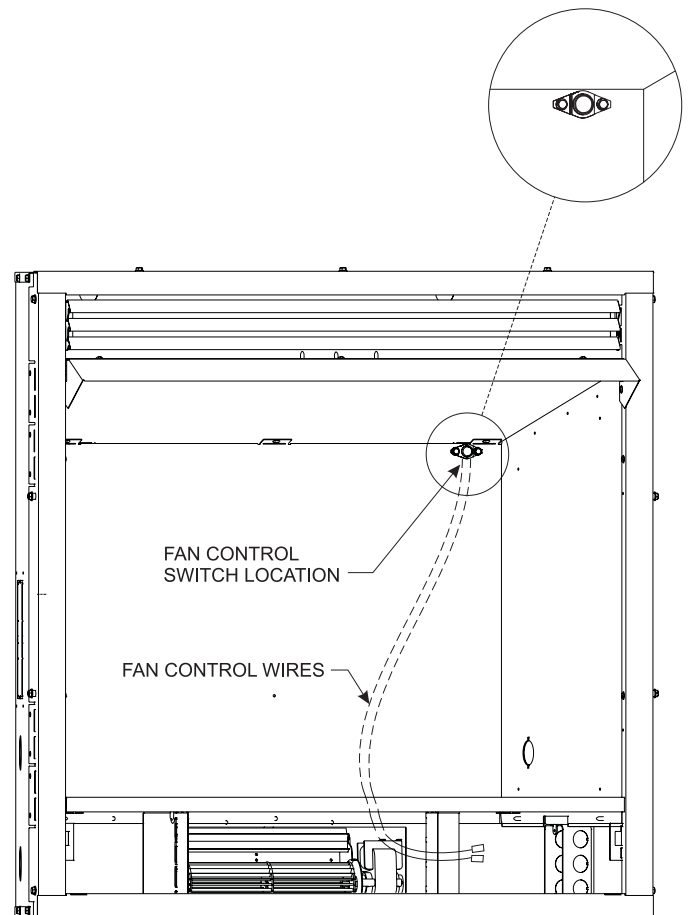

Figure 22
7. Next, find the fan control switch and wire assembly. Feed the wires through the hole at the top of the firebox, and secure the fan control switch with the two screws provided. **See Figure 22.**
8. The fan control wires will slide down between the firebox and outer wrap near the blower assembly. **See Figure 22.**